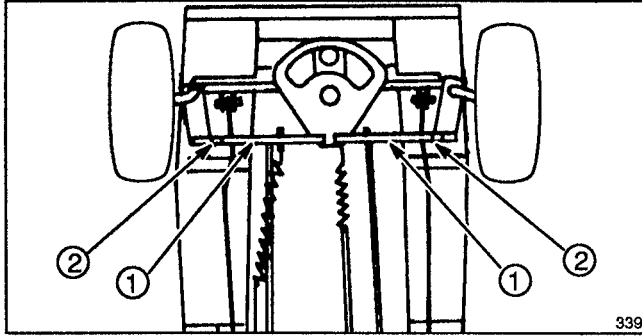

Figure 33
1. To align front wheels, loosen jam nut and turn tie rod until centerline distance across front of wheels (d'') is .06 inch (1.5 mm) to .25 inch (6.3 mm) less than centerline distance across rear of front wheels (d') (Figs. 33 & 34).